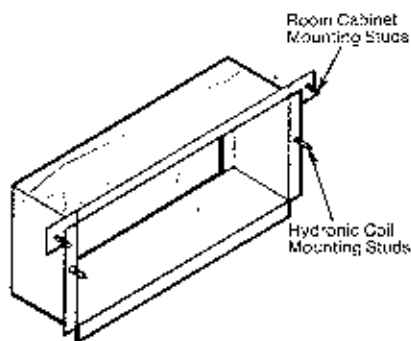
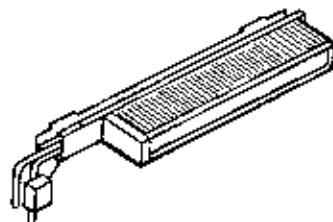
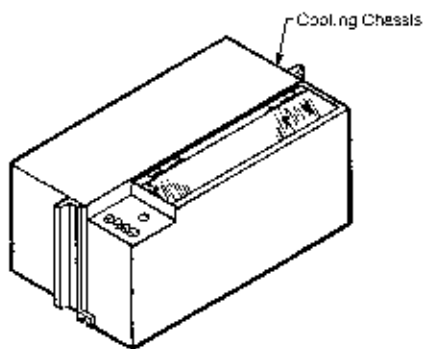

Figure 5. Wall Box
Figure 7. Hydronic Coil
Figure 8. Chassis
1. Install the wall box flush with the outside wall or per louver depth. The mounting flange of the wall box must never be recessed into the finished interior wall. Do not remove the optional, temporary weather panel during wall box installation (see Figure 5).
9. If a hydronic coil (steam or hot water) is specified (see Figure 7), install the coil on the wall box mounting studs (see Figure 5). The hydronic coil has a metal tab that secures to the top flange of the wall box.
10. Install the chassis (see Figure 8) to the same mounting studs (see Figure 5) as the hydronic coil and tighten the nuts on the screws.
13. Attach the room cabinet flange (see Figure 5) to the wall box mounting studs. Use the top hole on each cabinet flange if a hydronic coil is not installed. For hydronic coil installations, use the bottom hole on each cabinet flange.
14. Locate the cabinet kickplate in its final position (drop to floor) and tighten the (4) screws.
15. If optional power connection box is specified, mount to front flange of room cabinet with the (2) screws provided. The power connection box can be mounted to the left or right hand flange, depending on the job requirements and the length of the chassis cord.